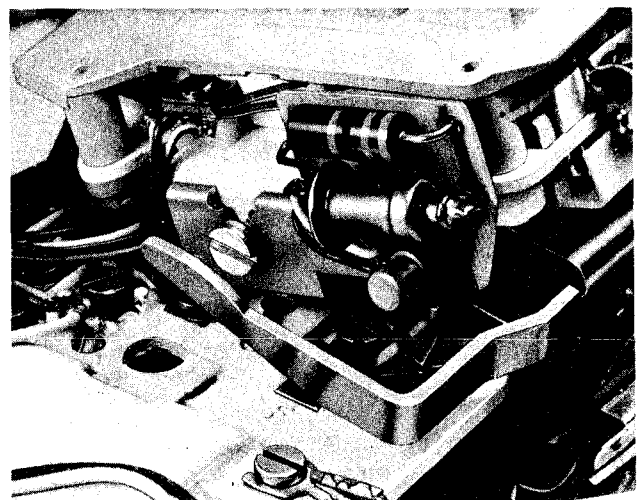

Fig. 8 — Polarity Guard Mounted in PRINCESS Telephone Set
- Reinstall dial on mounting bracket, securing the P-90D054 guard assembly mounting bracket under the right-hand dial mounting screw (Fig. 8).